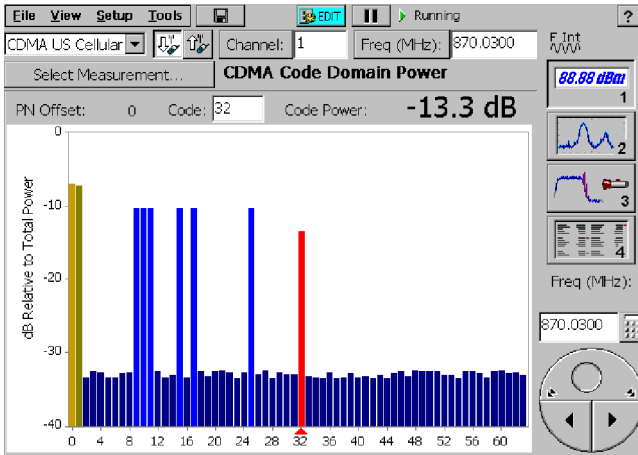

Figure 3-49: cdmaOne Code Domain Power display
5. Tap **Code Power**. See Figure 3-49.